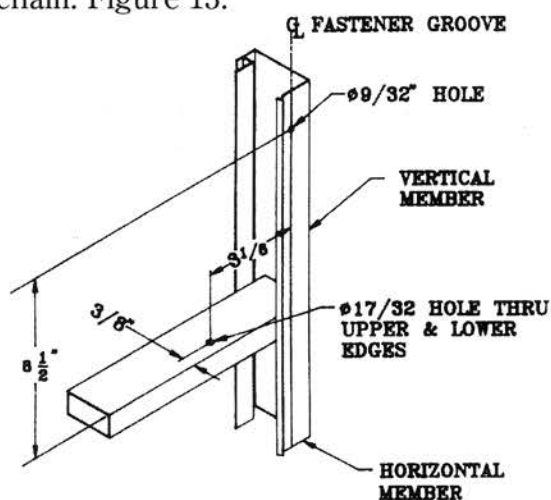

Figure 14
See pages 11 and 12 for other styles of side latches available. Select a horizontal door member that is at a convenient height and drill one (1) 17/32" diameter hole as shown. Next drill one (1) 9/32" diameter hole in the vertical door member. Refer to Figure 14 for hole location.